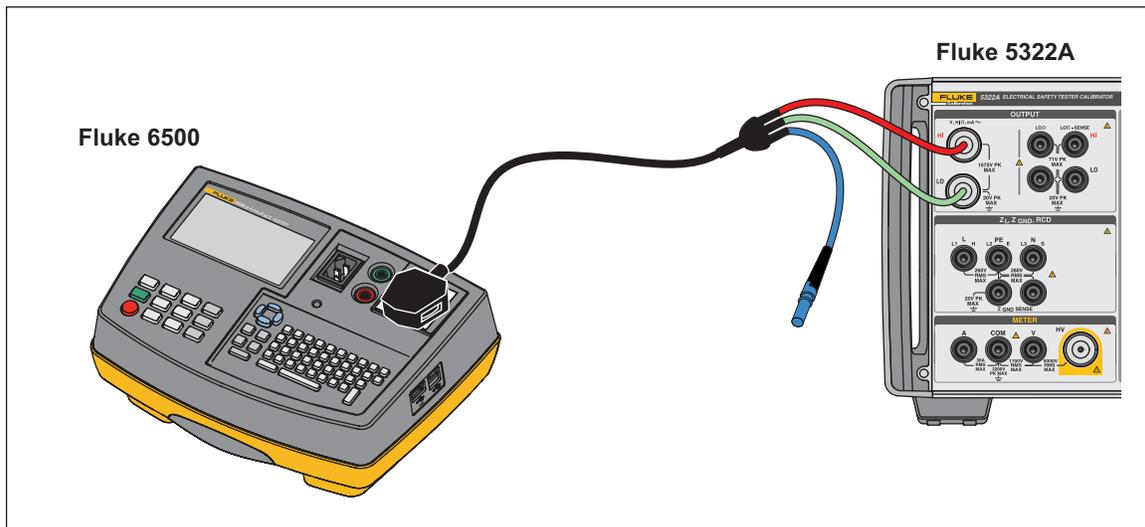

Figure 45. Passive Leakage Current Calibration on Fluke 6500
2. Connect the DUT to the Product OUTPUT mA~ HI and LO terminals as shown in Figures 45, 46, or 48.